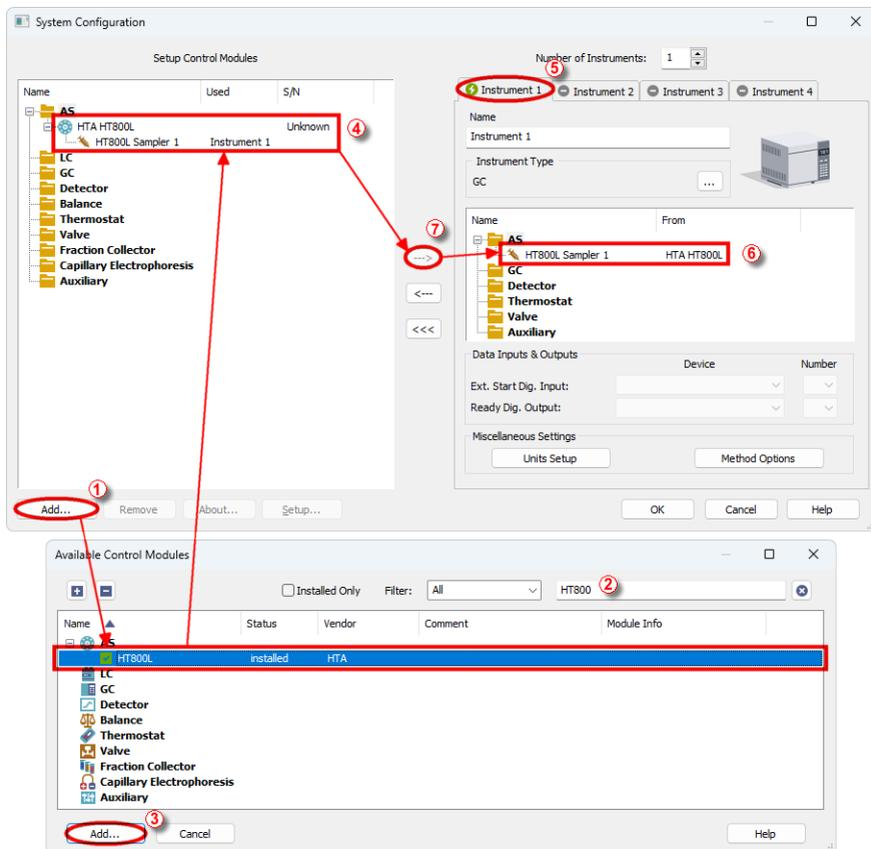

Fig. 4: System Configuration
- Press the **Add** button ① (see **Fig. 4** on pg. 6.) to invoke the **Available Control Modules** dialog.
- You can specify the searching filter ② to simplify the finding of the driver.
- Select the **HT800L** and press the **Add** ③ button.